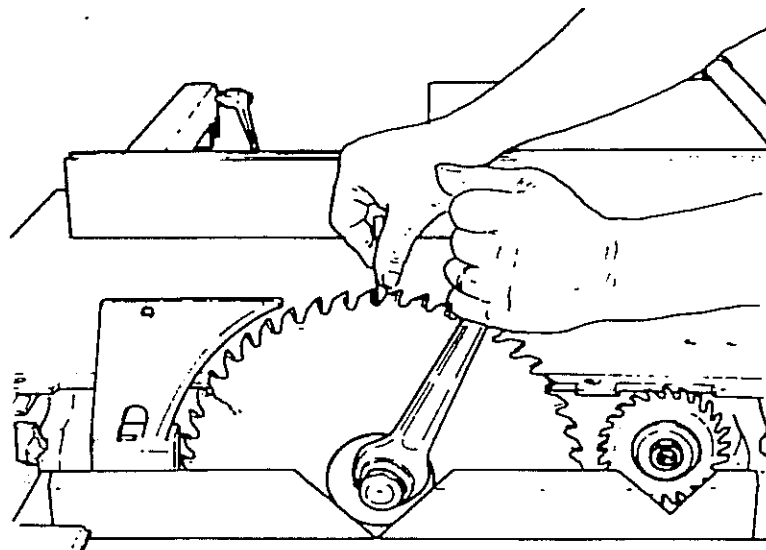

Fig.15
Fit pivot (A) again and tighten nut as shown in fig.15.